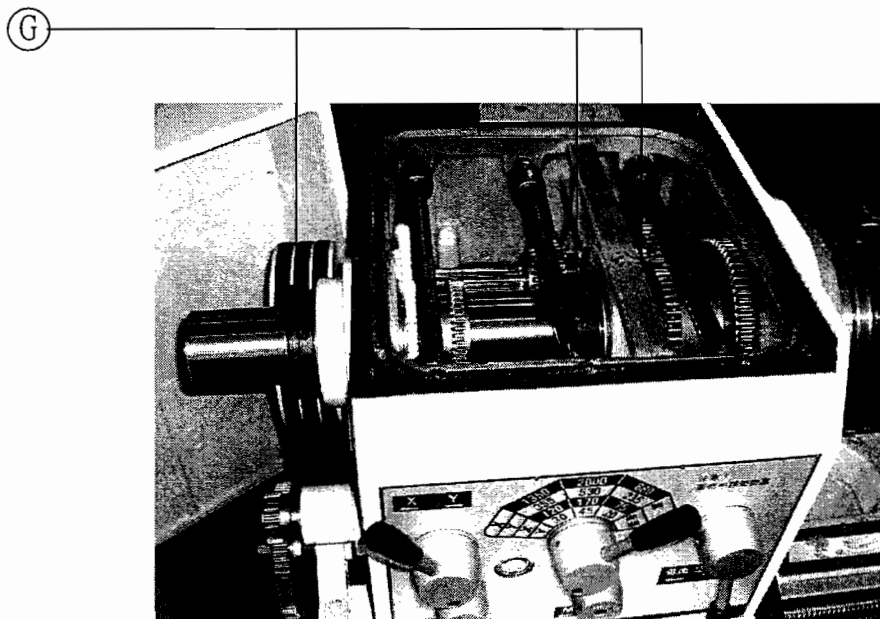

Fig. 7-1.3
The front and center bearings on the spindle are precision taper roller type. To maintain the accuracy and proper operation, the bearings must have the proper preload. To adjust the bearings, please loosen the set screws on lock-nuts ⑥ (Fig. 7-1.3) and tighten lock-nuts ⑥ to get the proper preload. Please do not over tighten! After adjusting the lock-nut, be sure to re-tighten the setscrews again.